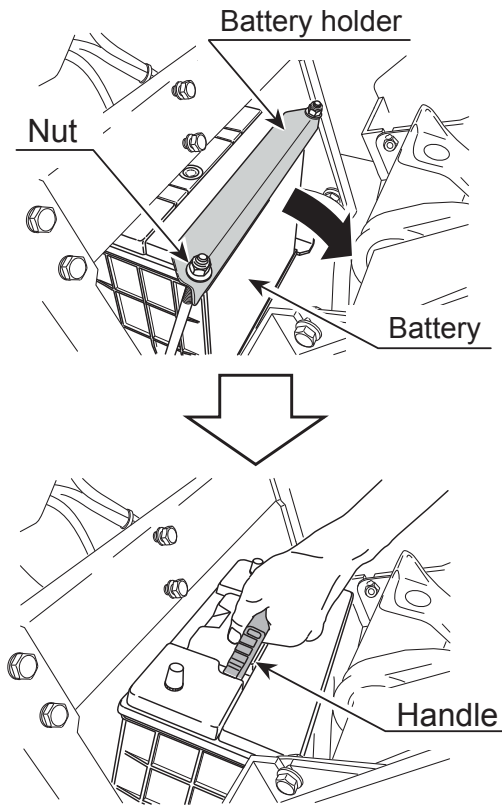

Figure 35. Removing Battery
4. Take off the nuts and remove the battery holder (Figure 35).
6. Pull up the handle on the top of the battery to remove the battery from the machine.(Figure 35). Make sure that the battery terminals do not touch the frame.